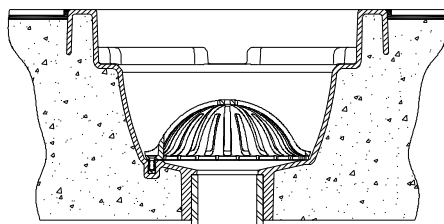

FIGURE 1a
1. Determine height of the floor sink body to the finished floor. Ensure to account for tile thickness. Cut pipe to determined height and solvent weld sink body to pipe. Floor sink body can be flush to finish floor (see Figure 1a) or up to 1 1/4" [32] above the finished floor (see Figure 1b).